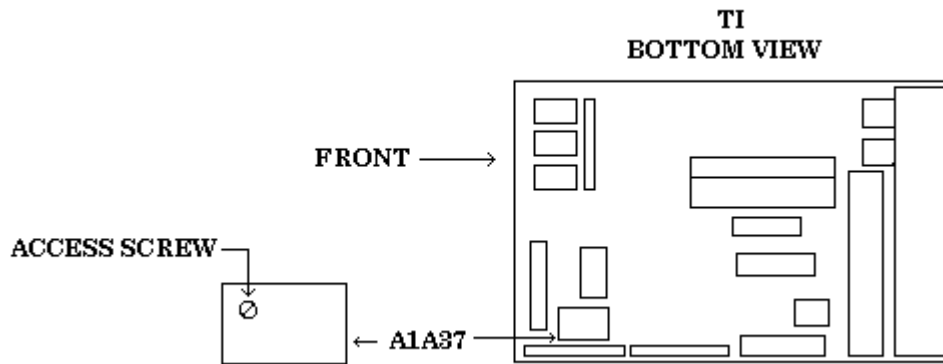

Figure 1. Cal out frequency adjustment.
- (1) Disconnect equipment setup.
- (2) Press and release TI spectrum analyzer **POWER** key to **OFF**.
- (3) Disconnect TI power cord.
- (4) Set TI spectrum analyzer on its front panel.
- (5) Loosen four screws through the back rubber feet.
- (6) Pull cover up and off.
- (7) Place TI on its top and reconnect power cord.
- (8) Connect TI **CAL OUT** to electronic counter input **C**.
- (9) Depress TI spectrum analyzer **POWER** key to **ON**.
- (10) Remove the access screw from A1A37 (fig. 1) and adjust oscillator for a 100,000,000 Hz indication on electronic counter.